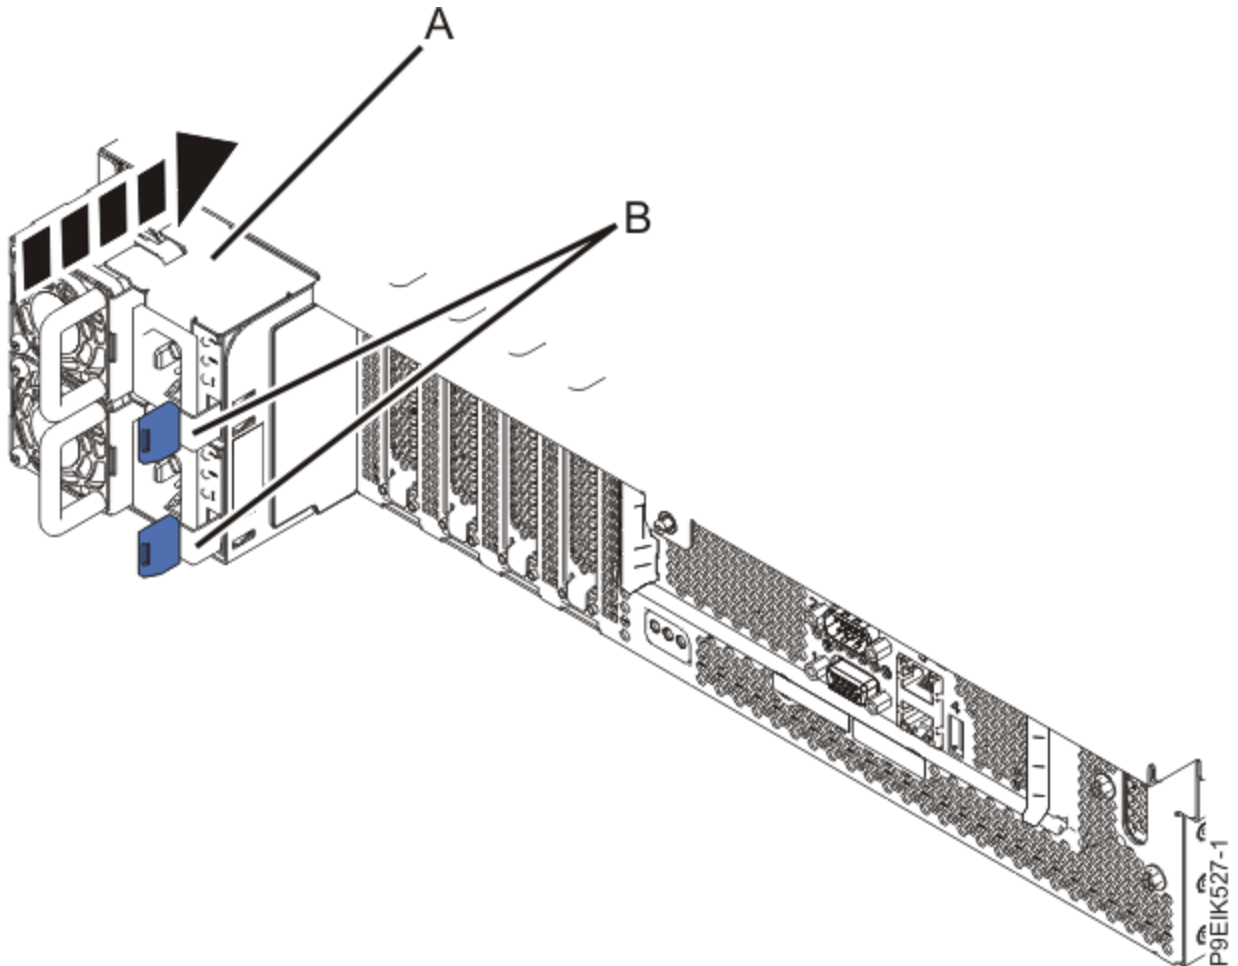

Figure 34. Replacing the power supplies in the system
2. Replace the power supplies as shown in Figure 34 on page 47.